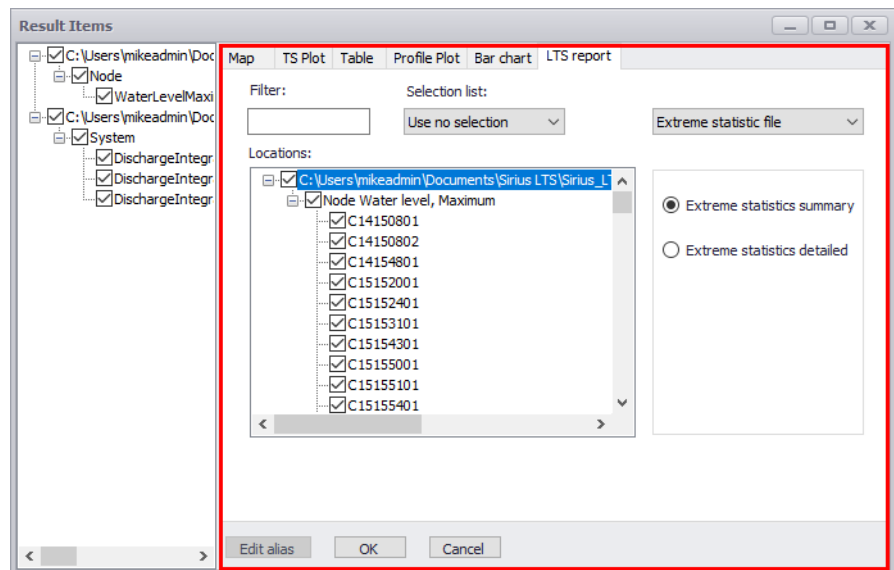

Figure 20.68 The LTS Report tab on the Result Items dialog
LTS statistics reports can be generated through the LTS Report tab on the Result Items dialog (Figure 20.68). The following types of LTS Reports could be generated:
- Access the ‘LTS Report’ tab on the ‘Result Items’ dialog (Figure 20.68).